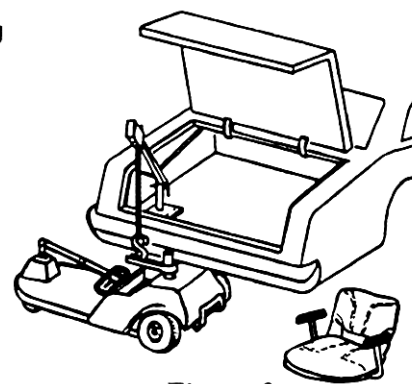

Figure 9
3) Swing the boom out until the boom outer end is over the lift arm attached to your seat post. Push DOWN on the electrical switch located at the boom outer end to lower the S-hook. Attach the S-hook to the adjustment spacer (Figure 7a, No. 2) on the lift arm. Make sure the lift strap webbing is straight and not twisted (Figure 9).